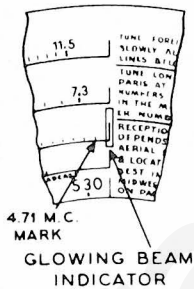

Fig. 8. Dial Calibration
- Loosen the set screws on the shaft coupling of the tuning condenser. Then turn the tuning condenser until the plates are in the maximum capacity position. Now turn the dial until the glowing beam indicator is on the Index Line at the low frequency end of range 3. (See Fig. 8). With the dial and tuning condenser in this position tighten set screws.
- Turn the tuning condenser control until the indicator is on the 4.71 M. C. mark of range 3. (See Fig. 8.)